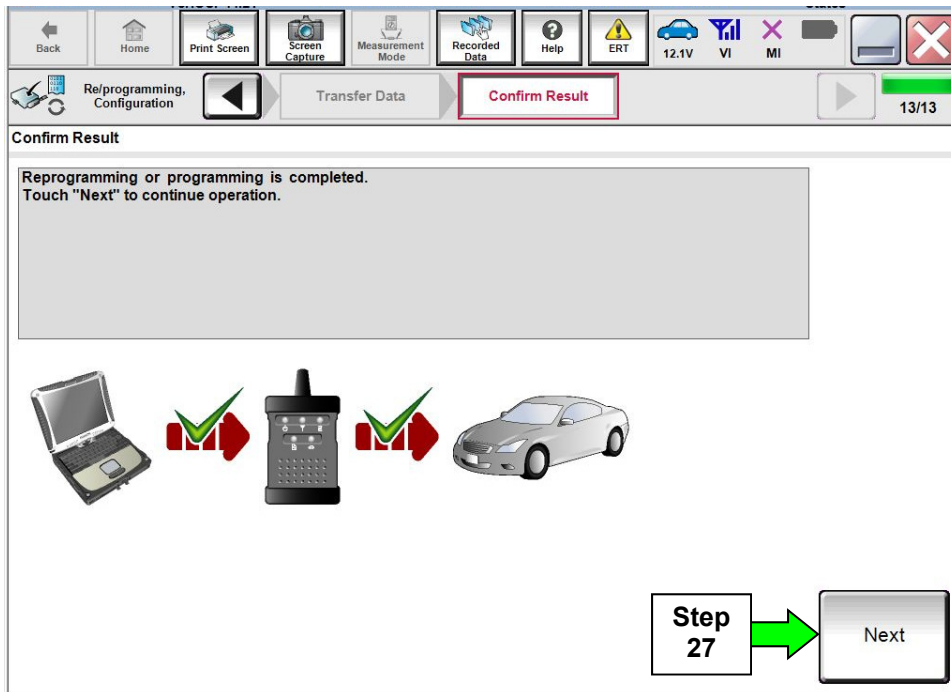

Figure 17
25. When the screen in Figure 17 displays, TCU reprogramming is complete.
**NOTE:** If the screen in Figure 17 does not display (indicating that reprogramming did not complete), refer to the information on the next page.